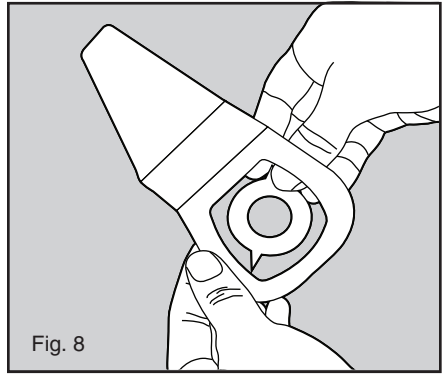

Fig. 8
- 9. Break away the center portion of the plastic template and discard the piece removed (see figure 8).